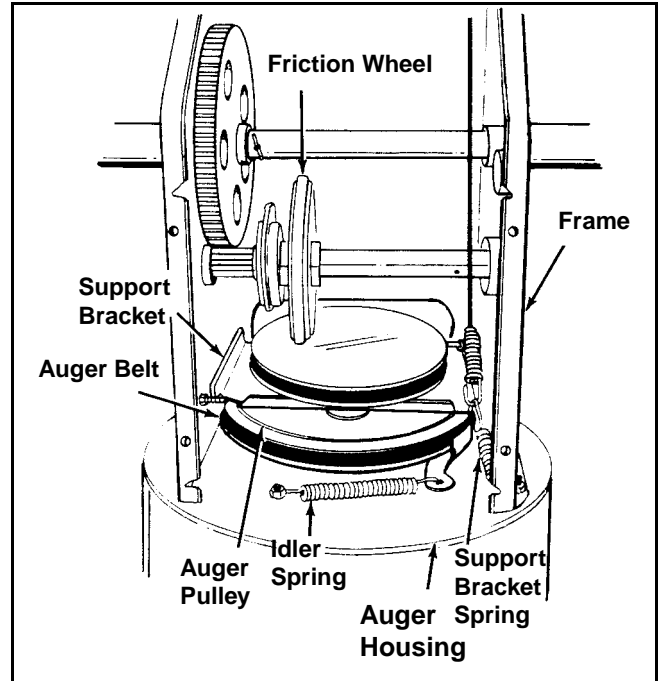

Figure 19
- Unhook the idler spring from the hex bolt on the auger housing. See Figure 19.
- Lift the auger belt from the auger pulley, and slip belt between the support bracket and the auger pulley. See Figure 19. Repeat this step for the front auger belt.